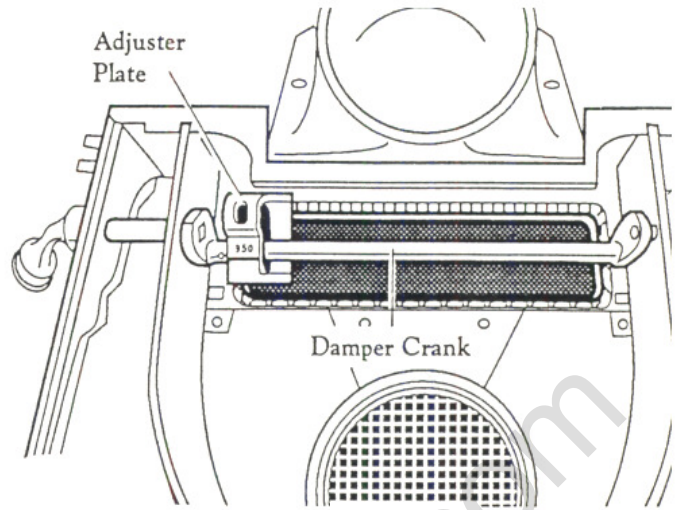

Fig. 6
4. Rotate the damper crank forward and flip the adjuster plate upside-down, (you will see #950 cast into the plate) (**Fig. 6**). Slide the adjuster plate over to the left end of the crank.